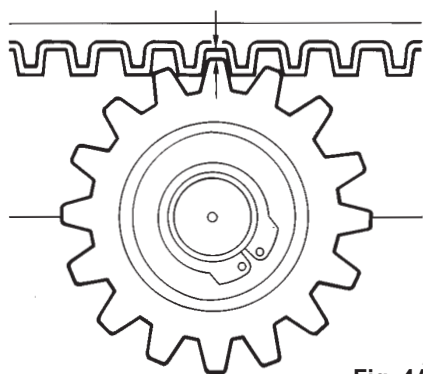
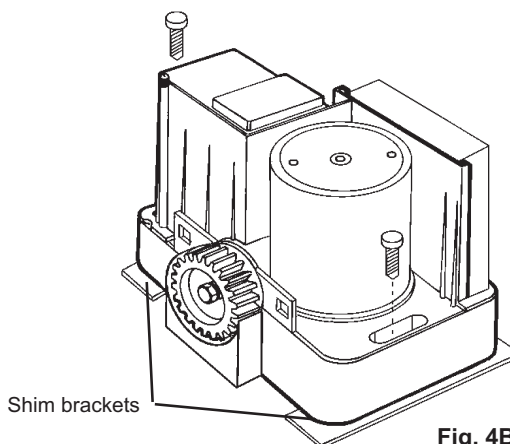

Fig. 4A
Fig. 4B
- 2 - A play of 2mm must be ensured between the pinion and the rack for the whole length of the gate (Fig. 4A). To do so position the spacers (provided) as shown in Fig. 4B and the gearmotor.
- The result must be the same as that shown in Fig. 4A.